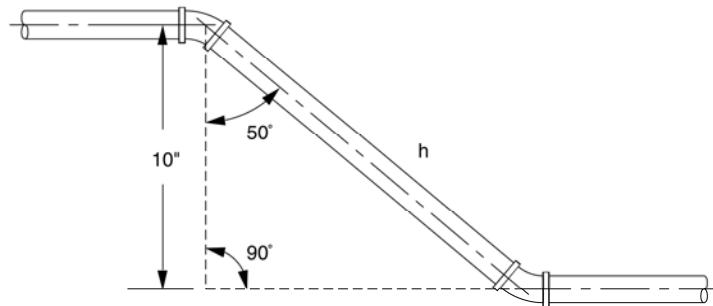

Figure 3-6. Calculate the hypotenuse of the right triangle using trigonometry concepts.
11. Calculate the hypotenuse (travel) of the triangle shown in Figure 3-6 using trigonometry concepts.